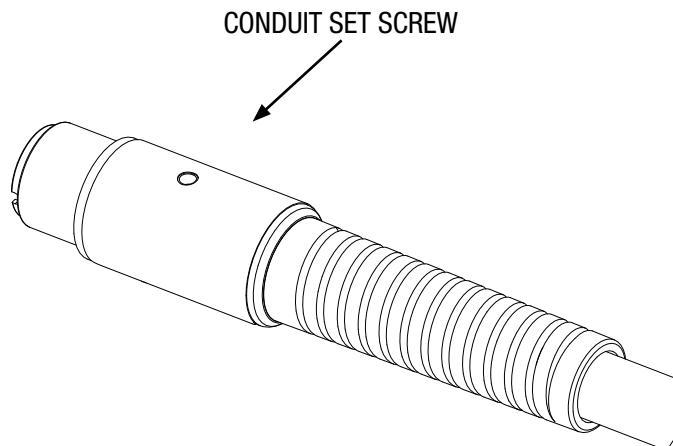

Figure 5: Access Hole for Conduit Set Screw
11. Insert the factory-supplied 5/32" T-handle allen wrench through the hole on the aluminum front handle cap, identified as "Conduit Set Screw" on the label, and rotate the set screw counterclockwise until it stops rotating (see figure 5).
15. Re-insert the factory-supplied 5/32" T-handle allen wrench into the hole labeled "Conduit Set Screw" on the front handle cap and rotate the set screw clockwise. The set screw should be hand tight. Over tightening may cause wire feed ability problems (reference Figure 5 for hole location).